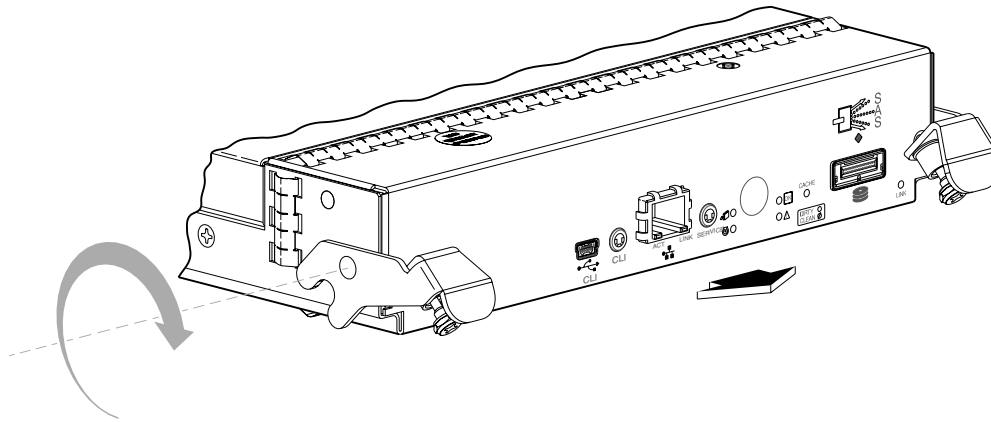

Figure 2 Disconnecting a controller module
5. Press both latches downward to disconnect the controller module from the midplane (see Figure 2).